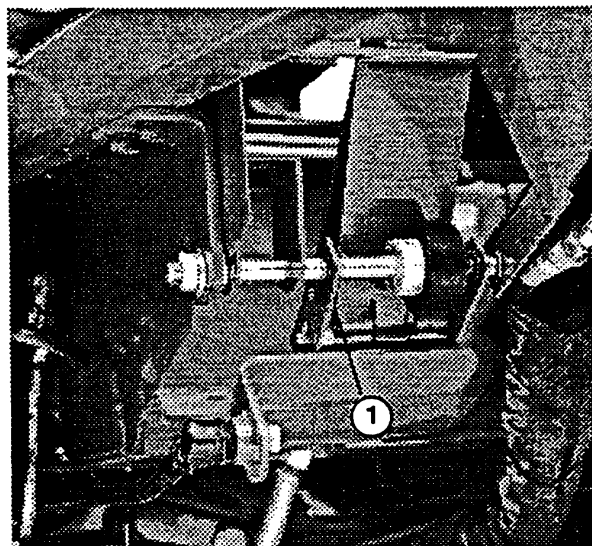

Figure 3
4. Place new traction pedal assembly into position and secure traction pedal pivot bracket to frame with (2) new self tapping screws (Fig. 3).
5. Connect pump control rod to traction pedal pivot bracket with nut previously removed (Fig. 3).